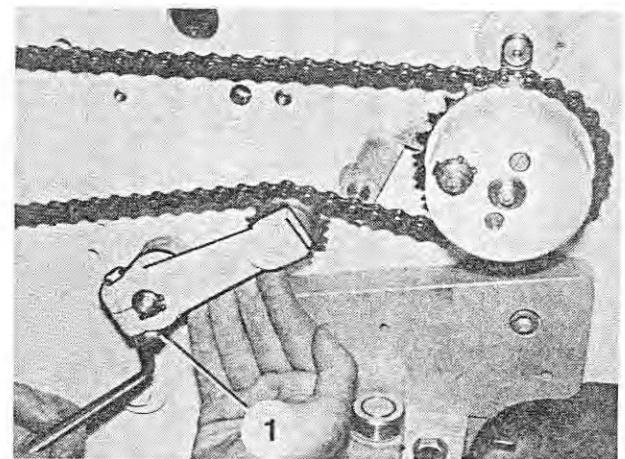

Fig. 63
3. To adjust the tension, loosen the clamping screw (Figure 63/1). Raise the tensioning lever with its sprocket wheel and tighten the clamping screw.